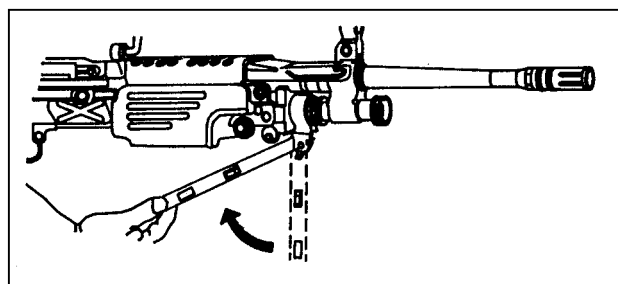

Figure 1-36. Folding of bipod under the handguard.
- c. Before transporting the weapon, the gunner folds the bipod legs. To place the legs in the closed position, the gunner holds them together; he pulls the them back under the handguard; he then releases them so that the hooks on the legs grip the handguard. The bipod can be folded only when the legs are in the closed position (Figure 1-36).